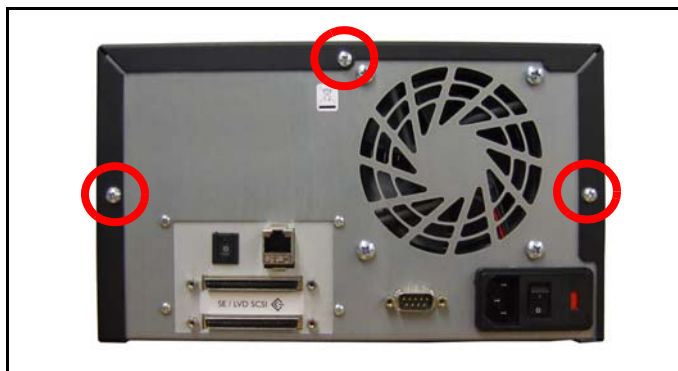

Figure 2-4 The three screws on the back of the unit.
6. Use a #2 Phillips screwdriver to remove the three screws on the outer edges of the back of the cover (Figure 2-4).